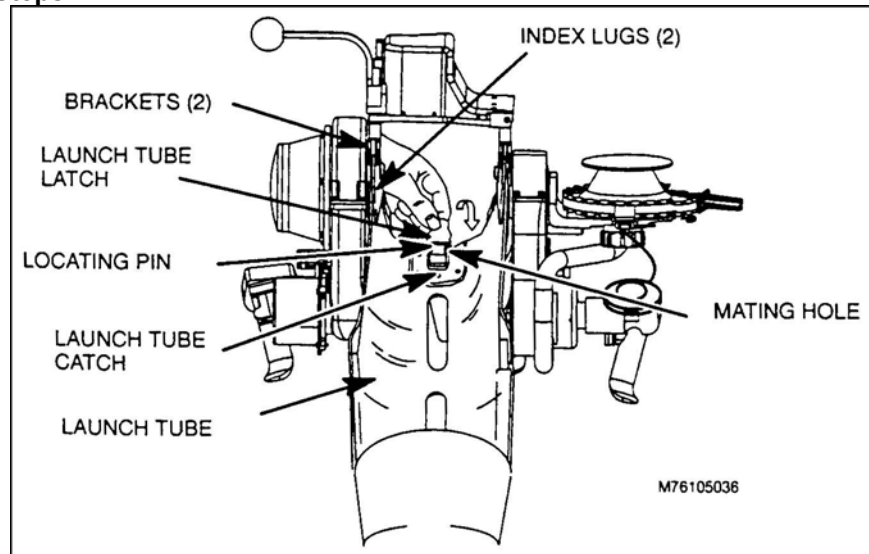

Figure 9. Installing launch tube.
3. Install launch tube on TU (Figure 9).